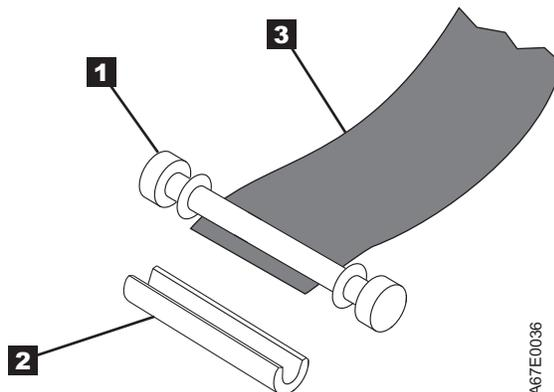

Figure 6-14. Removing the C-clip from the leader pin. Use your fingers to push the C-clip from the leader pin.
5. On the leader pin ( **1** in Figure 6-14), locate the open side of the C-clip ( **2** ). The C-clip is a small black part that secures the tape ( **3** ) to the pin.